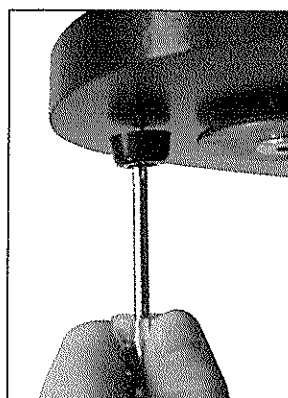

Figure 4. Install the bumper into the pilot hole above the altitude encoder assembly.
- 2) There is a pilot hole above the 5/8 through hole in the right side panel's interior surface; this is where the plastic bumper that protects the altitude encoder assembly will be installed. Take the remaining wood screw, push it through the bumper, and thread it into the pilot hole until tight (Figure 4).